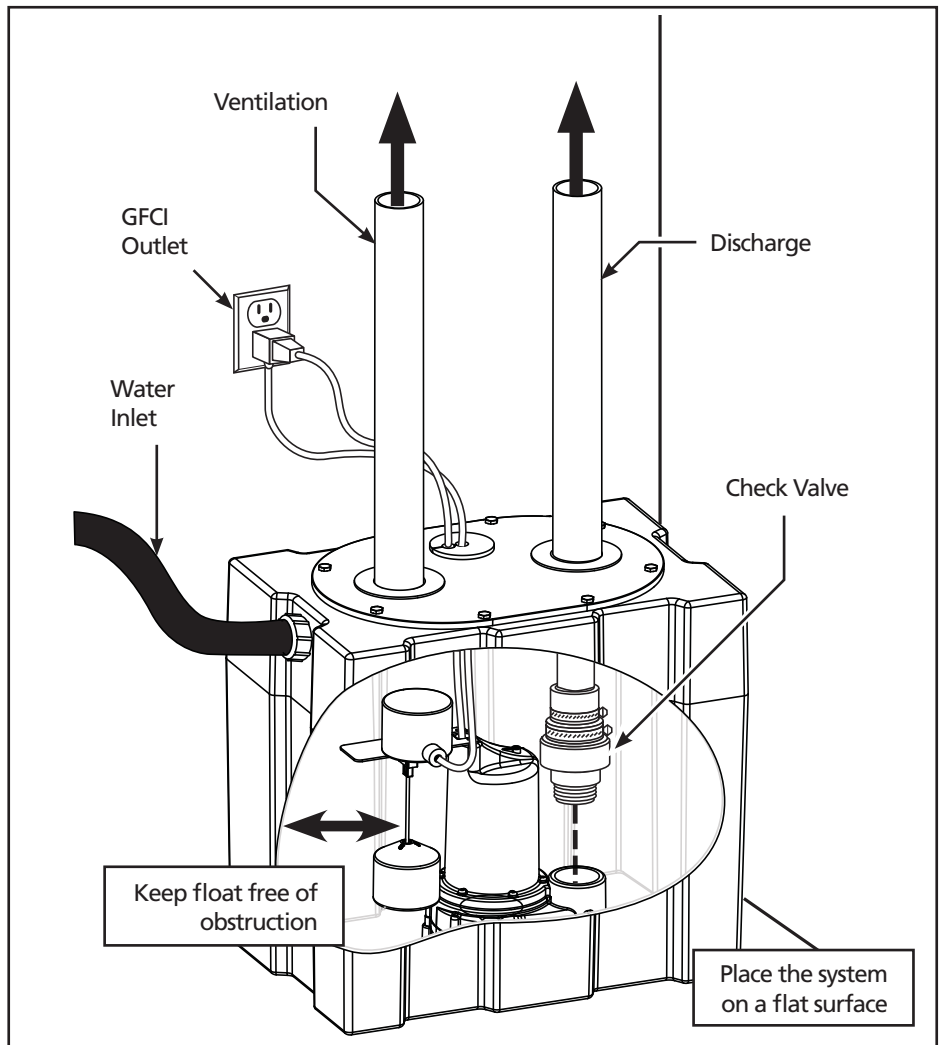

Figure 4: Installation
- Connect discharge pipe (See Figure 4) on Laundry Tray System to an existing drain. Make sure all connections are sealed.
- Insert 1-1/2 in. Schedule 40 PVC pipe into vent opening on top of Laundry Tray System (See Figure 4). Insert pipe 2 to 3 inches into vent opening.
- Connect Intake of this Laundry Tray System (See Figure 4) to your washing machine or other source. The threads are 1-1/2 in. NPT.